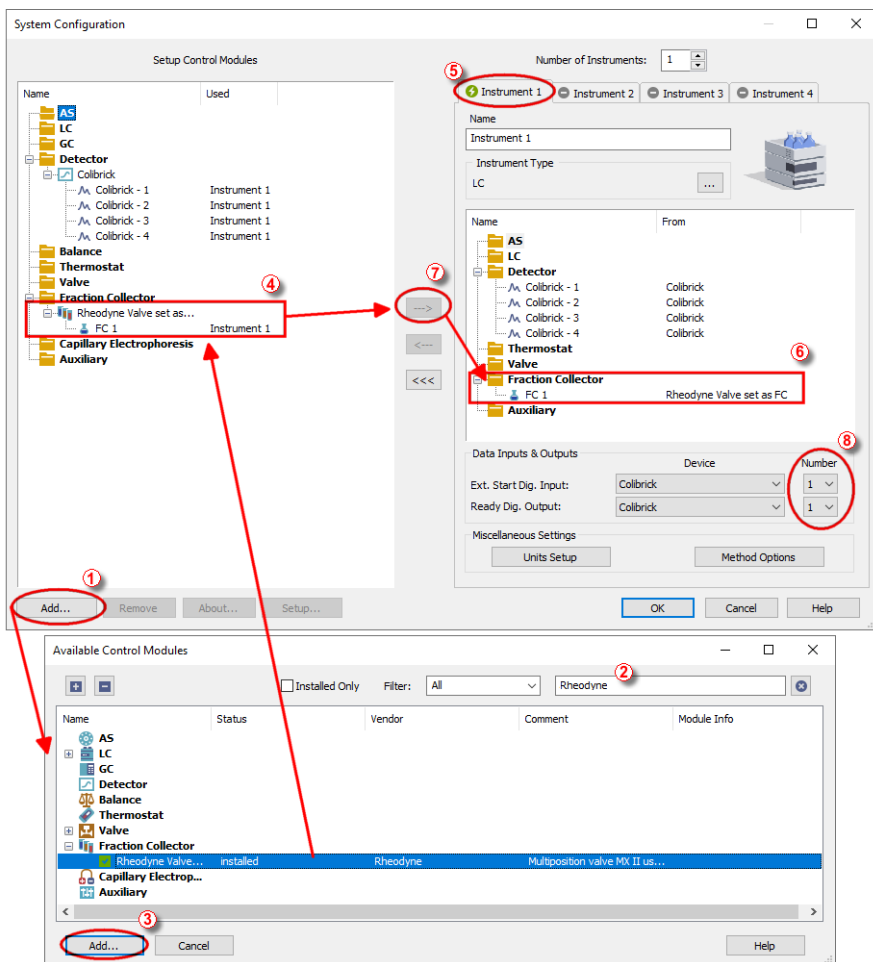

Fig. 2: How to add FC by Rheodyne Valve
- Press the *Add* button (① on **Fig. 2** on pg. 4.) to invoke the *Available Control Modules* dialog.
- You can specify the search filter (②) to simplify the finding of the driver.
- Select the correct item and press the **Add** (③ on **Fig. 2** on pg. 4.) button. Each device with already created UNI profile should have its own item named accordingly in the **Available Control Modules** dialog.